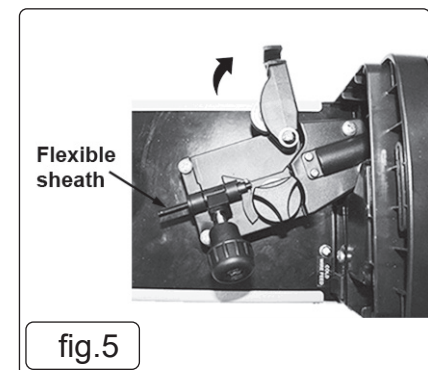

fig.5
- 5.2.2. Rotate the pressure roller housing up towards the right (fig 5).
- 5.2.5. Straighten the end of wire and gently push it through the flexible sheath (fig 5), over the feed roller groove and then into the torch cable liner.